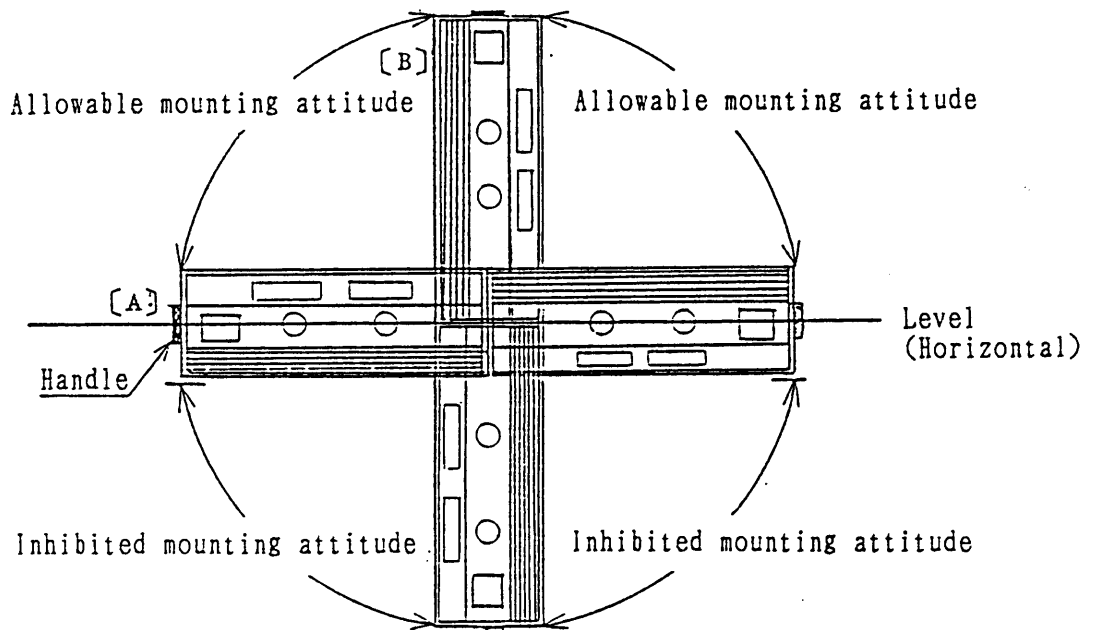

Figure 2-1
- o The allowable or inhibited mounting attitudes of the power supply are as shown in Figure 2-1. Install it in the attitude of [A] or [B]. Don not install it in the attitude that the handle is positioned lower than the horizontal level.